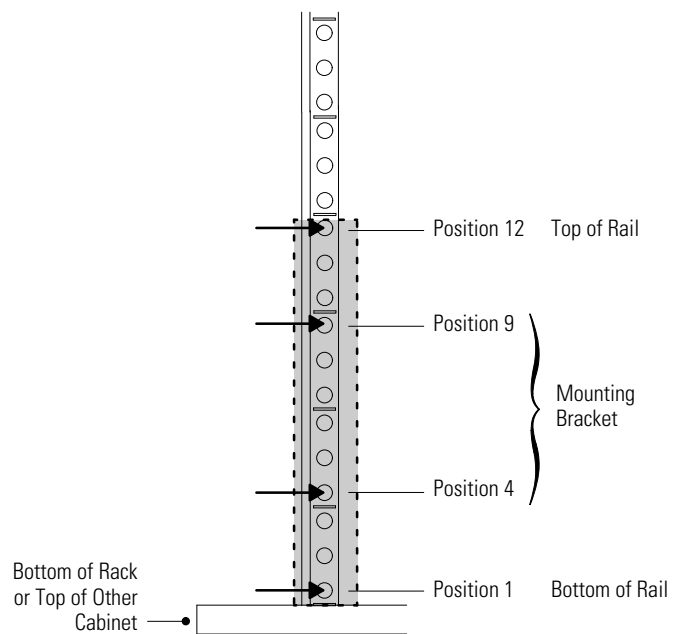
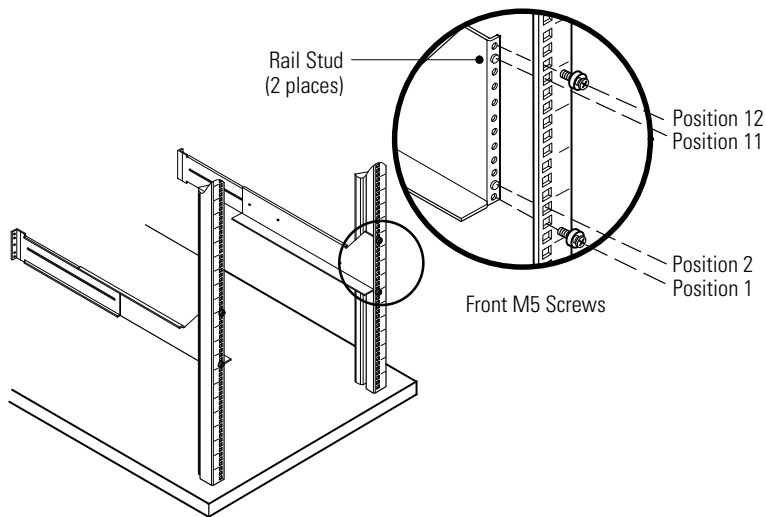

Figure 43. Front Rail Screw Positions for the UPS
Figure 45. Securing the Front Rail
1. Select the proper holes in the rack for positioning the UPS in the rack (see Figure 43).
3. Using two M5 machine screws, attach the rail to the front of the rack and finger-tighten only (see Figure 43 and Figure 45).